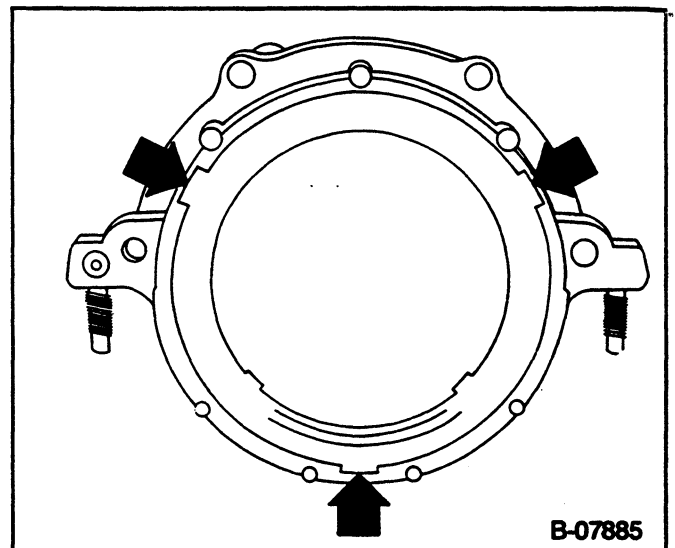

Figure 21—Seal Removal Notches
Remove or Disconnect (Figure 21)
3. Rear crankshaft oil seal. Insert a screwdriver into the notches provided in the seal retainer and pry the seal out (figure 21). Take care not to damage the crankshaft seal surface.
↔ Remove or Disconnect (Figures 21 and 23).
4. Screws (80) and nuts (81).
5. Seal retainer (82).
6. Gasket (84).
7. Rear crankshaft oil seal. Insert a screwdriver into the notches provided in the seal retainer and pry the seal out (figure 21).